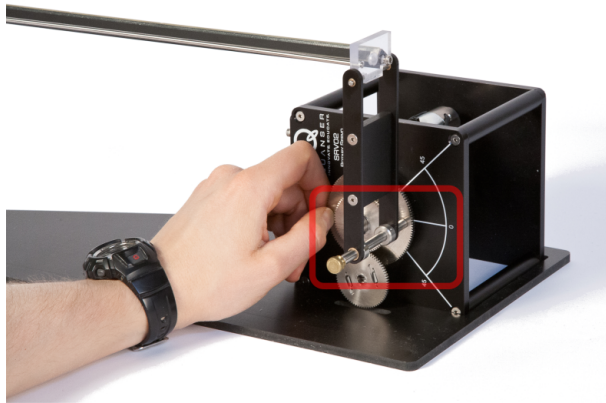

Figure 4.3: Attach BB01 to SRV02 and rotate the gear to 0 degrees.
5. Tighten the coupling screw into the screw hole of the large 120-tooth load gear as depicted in Figure 4.3.
6. As illustrated in Figure 4.3, manually rotate the servo load gear to the 0 degree position. The coupling screw should be aligned with the 0 degree position on the servo.